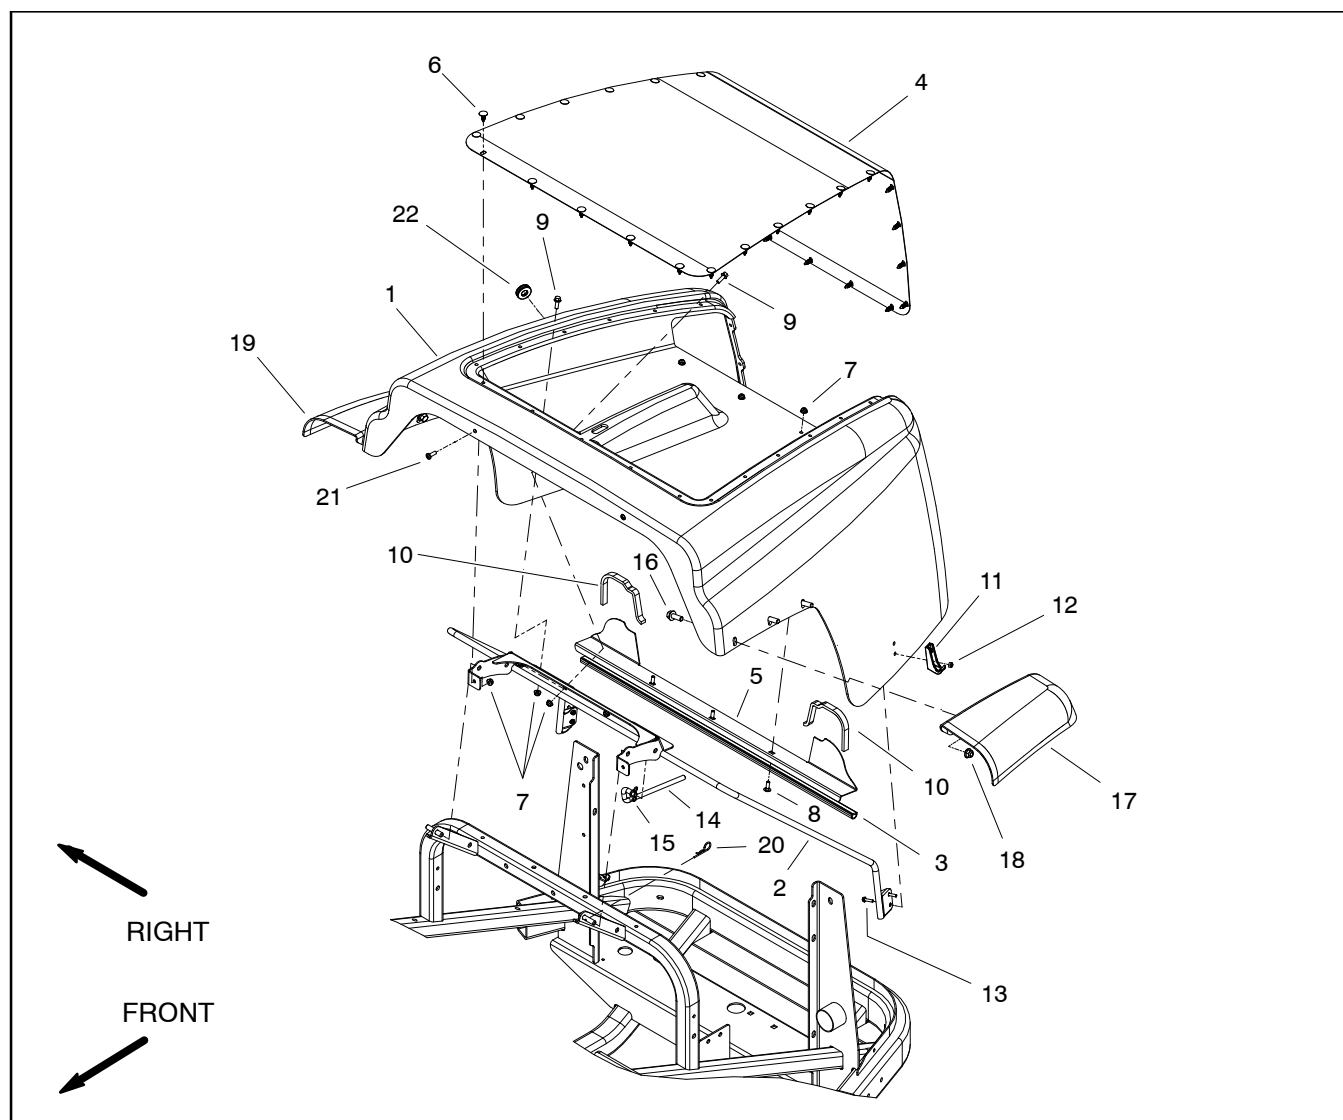

Figure 57
**Removal (Fig. 57)**
3. Remove hair pin (item 20) from frame rod to allow hood removal.
6. If necessary, remove hood components using Figure 57 as a guide.
**Installation (Fig. 57)**
1. Install all removed hood components using Figure 57 as a guide. If intake screen was removed from hood, make sure that hood seal (item 5) and hood mount (item 2) are attached to hood before installing screen. Secure screen to hood with plugs.
4. Install hair pin (item 20) to retain hood.